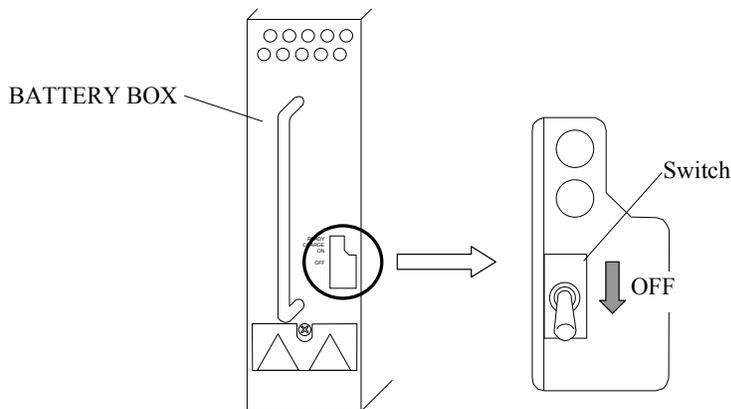

Fig. T9-1 Switch on Battery Box
- b-1 Turn off the switch on the replaced Battery Box. (Refer to Fig. T9-1.)
- b-2 Loosen the two screws ① and screw ②.
- b-3 Move the stopper upper and fasten the two screws ①.
- b-5 Loosen the two screws ①, and move the stopper below.
- b-6 Fix the Battery Box with the two screws ① and screw ②.
- c-2 Turn off the switch on the replaced Battery Box. (Refer to Fig. T9-1.)
- c-3 Remove the two screws ① when two Battery Boxes are fixed by bracket-1.
- c-4 Remove the two screws ②, two screws ③, and bracket-1.